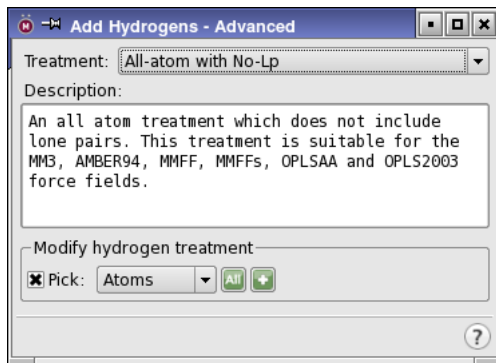

Figure 2.6. The Add Hydrogens - Advanced panel.
2. Choose All-atom with No-Lp from the Treatments option menu (see Figure 2.6).